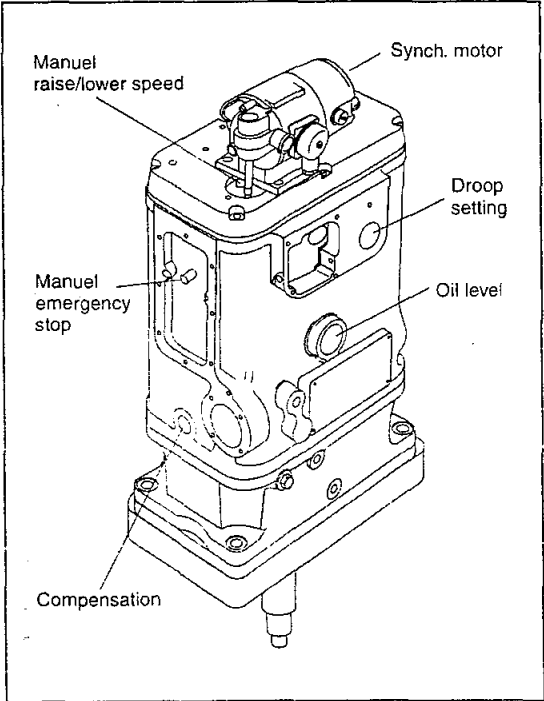

Fig 2 Governor.
- 2) Check the oil level in the governor, see Fig 2, with the level indicator on the governor.